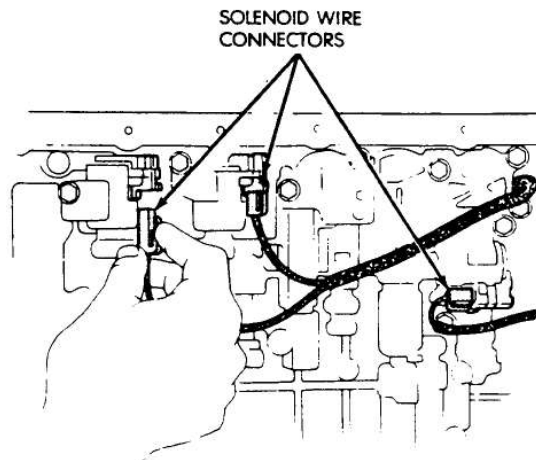

Fig. 7 Solenoid Wire Connectors
- (4) Disconnect solenoid wire connector (Fig. 7).
- (5) If all solenoids are being removed, mark or tag wires for assembly reference before disconnecting them.
- (6) Remove bolt attaching solenoids to valve body and
(1) Remove oil pan and oil screen. Refer to Solenoid Removal procedure.
(2) Disconnect solenoid wire connectors (Fig. 7). Mark
(3) Disconnect solenoid wire connectors (Fig. 7). Mark wires for assembly reference.